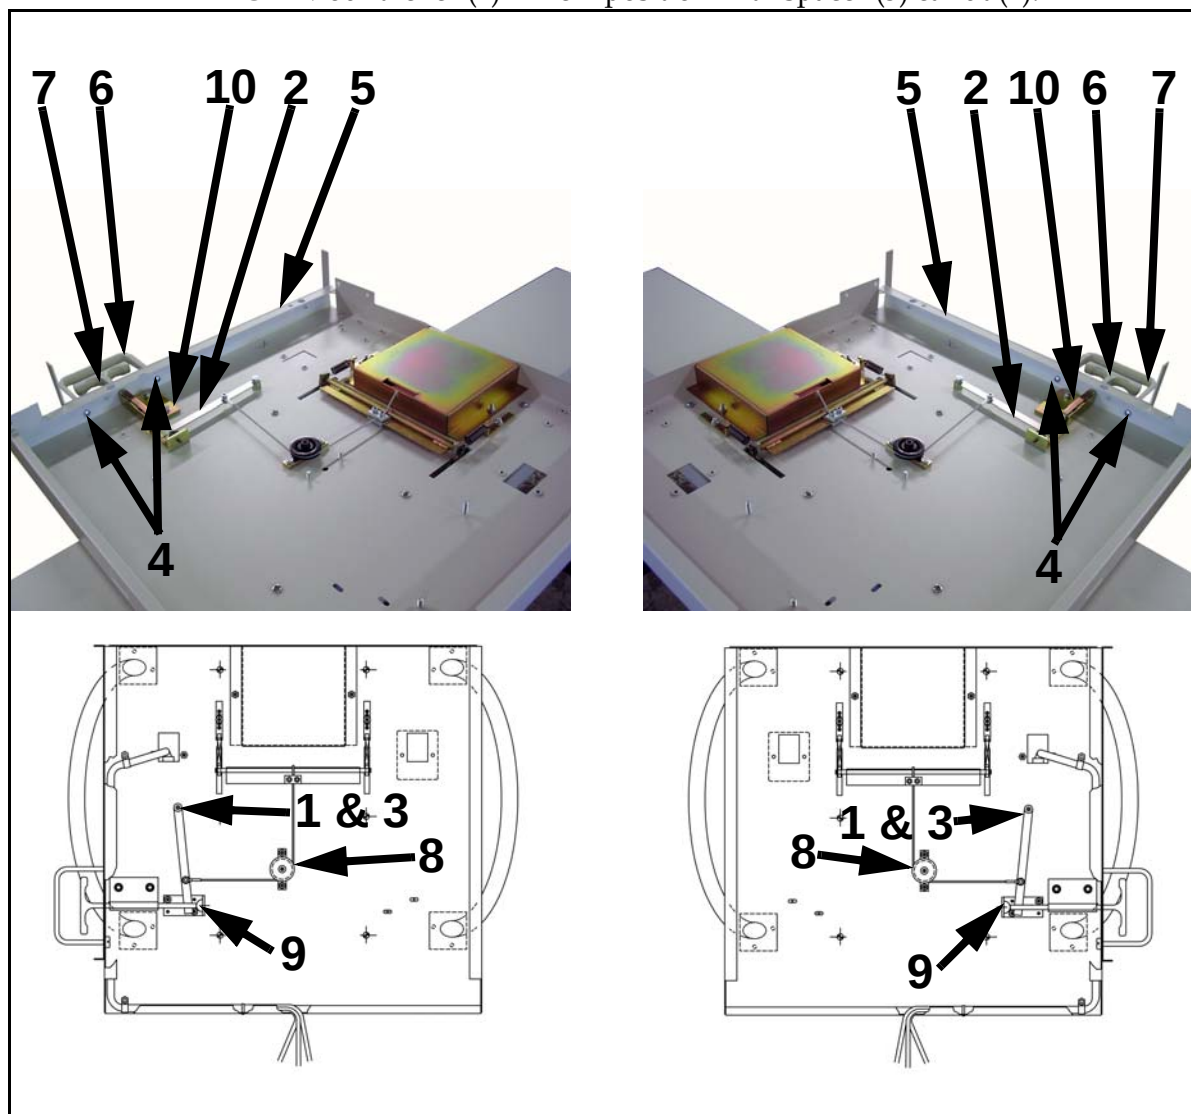

Figure 5-19. Lock Mechanism Assembly (Left & Right Shown)
- 30** Unscrew lever nut (1 in Figure 5-19) and lift lever (2) and spacer (3) off of mounting stud.
- 31** Unscrew two inside bracket screws (4) and remove bracket* (5), handle guard (6) and handle (7).
- 32** Remove pulley assembly (8) and place in new position.
- 33** Remove bumper assembly (9) and place in new position.
- 34** Remove handle guide (10) and place in new position.
- 35** Slide handle (7) into bracket (5).
- 36** Install bracket (5) and secure in place with screws (4) and handle guard (6).